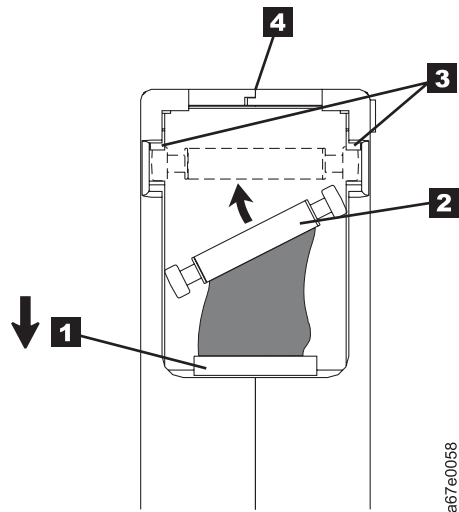

Figure 52. Placing the dislodged leader pin into the correct position. The cartridge door is open to show the leader pin.
1. Slide open the cartridge door (**1** in Figure 52) and locate the leader pin **2** . You may need to shake the cartridge gently to roll the pin toward the door.